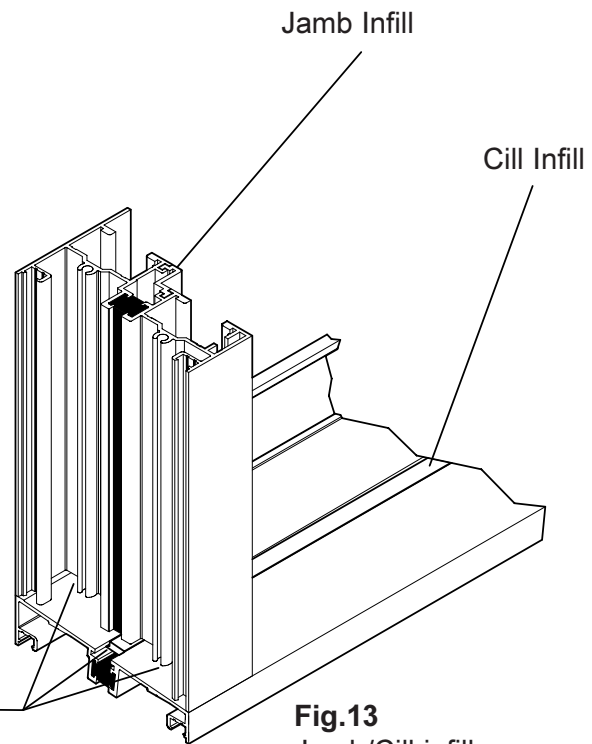

Fig.13
- Fit the jamb and cill infills into their corresponding frame sections making sure that both are securely fixed with silicone sealant. Please note that the cill infill should be cut 20mm short of the overall cill length. (See Fig 13)
- Where the cill infill has been cut 10mm short at each end fill the remaining gaps/channel liberally with silicone sealant to prevent water tracking out into the brickwork. Sealant should also be applied liberally around enclosed pocket as shown (Fig. 13) at both head and cill.